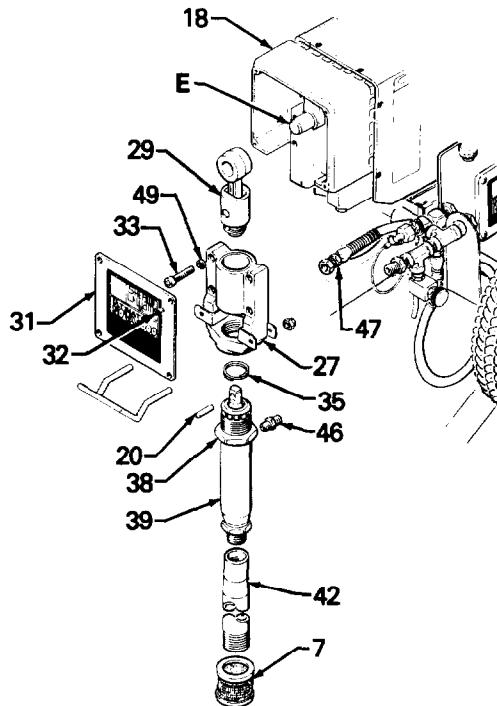

Fig 20
## BEARING HOUSING & CONNECTING ROD REPLACEMENT (See Fig 20 and 21)
14. Install the screws (33) and lockwashers (49) on the bearing housing and tighten evenly.
15. Screw the displacement pump about 3/4 of the way into the bearing housing (18). Hold the pin (20) up to the pin hole in the connecting rod assembly (29) and continue screwing in the pump until the pin slides easily into the hole. Back off the pump until the top threads of the pump cylinder are flush with the face of the bearing housing and the outlet nipple (46) is facing back. Push the retaining spring (35) into the groove all the way around the connecting rod. Tighten the locknut (38) very tight—about 75-85 ft-lb (102-115 N·m)—with a 2 in. open end wrench and a light hammer. See Fig 20.